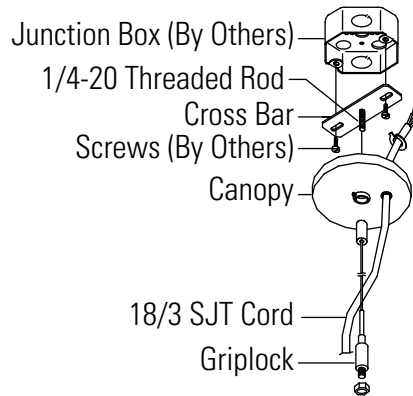

Figure 1
Step 1. Installing the Suspension (Fig. 1)